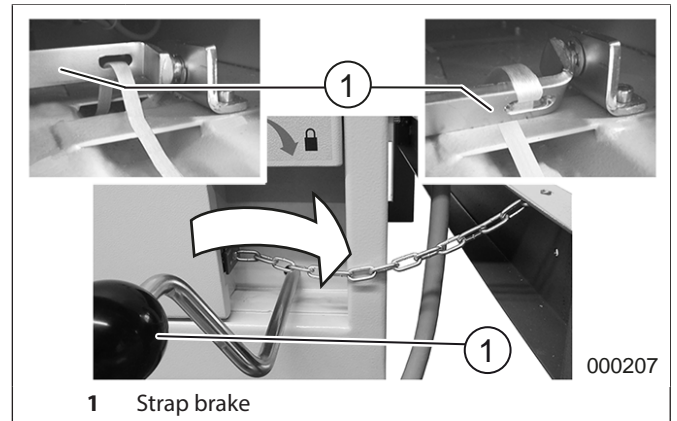

fig. 17 Strap brake
The strap brake (fig. 17) must be closed (move lever to right).
2. Open the strap brake (fig. 17/1).
4. Close the strap brake (fig. 17).
3. Open the strap brake (fig. 17).